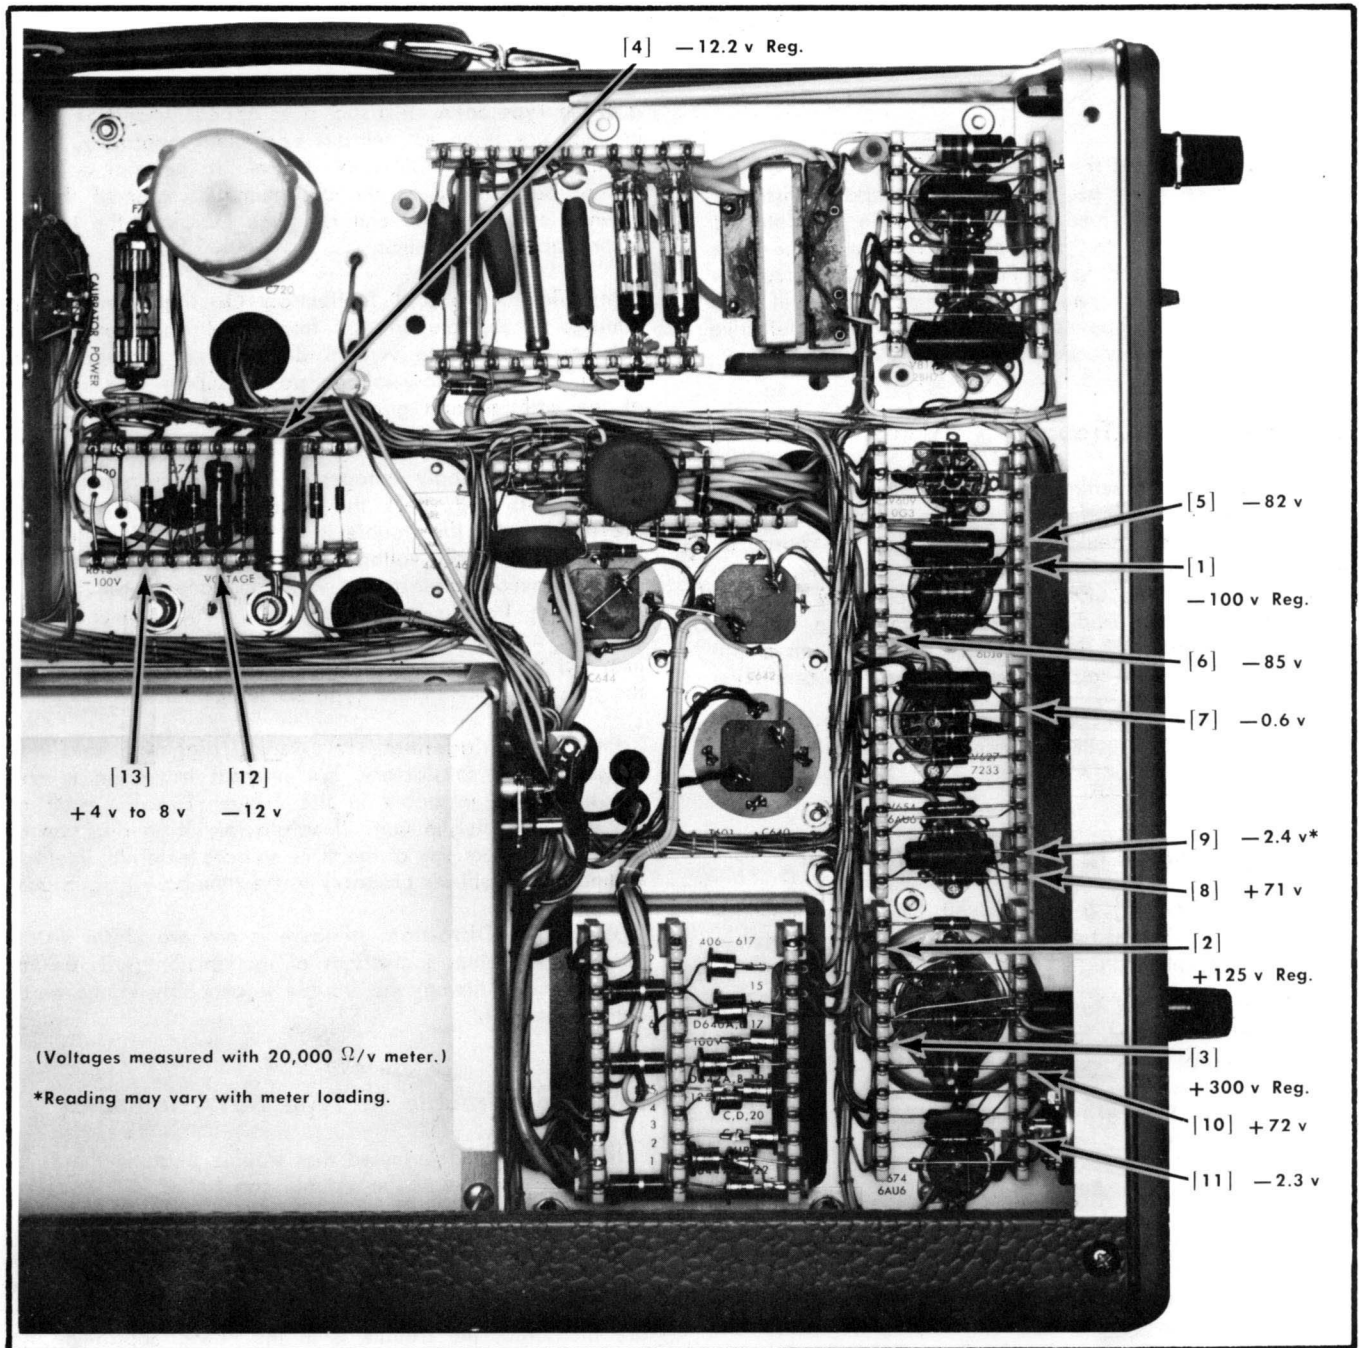

Fig. 4-1. Power-supply test points; [1] through [13]
**Insufficient Vertical Deflection Or Improper Sweep Timing.** If the plug-in unit front-panel gain controls do not permit adequate vertical deflection or proper sweep timing, check the low-voltage power supply and voltages at the cathode and grids of the crt (see schematics and Figs. 4-1 and 4-2).
To localize the trouble to either the Power Supply or the Crt Circuit, measure the power-supply voltage at test points [1] through [4], indicated in Fig. 4-1. If incorrect voltages are measured, the trouble is in the Power Supply or the power source. If all of the measured voltages are proper, the trouble is in the Crt Circuit.
measurements. Voltages at various points throughout the instrument are indicated on the circuit diagrams and in Figs. 4-1, 4-2 and 4-3. These voltages are typical nominals only and, with the exception of power-supply voltages, may vary considerably from instrument to instrument. Resistance measurements in a circuit will usually be point-to-point checks for which the proper values can be approximated from the schematic diagrams. Table 4-1 may be used as an aid in relating trouble symptoms to their probable cause and the procedure to use to locate the defective component. Voltages listed in the table were obtained with the Type 561A operated with Types 3A1 and 3B1 plug-in units.